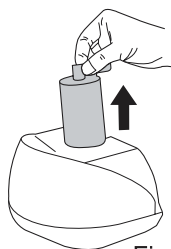

Fig.3
2. Take the filter upwards out from the water fill hole. (You can take the filter out of the opening for filling water into water tank, or fill water into water tank directly with the filter existing in the opening) Fig.3